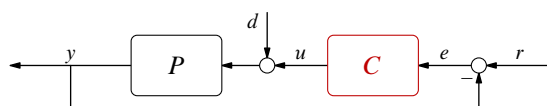
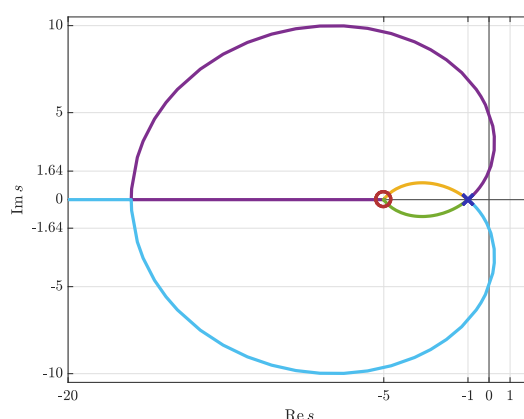

Fig. 1: Unity feedback closed-loop system
Fig. 2: Root locus system 1
**Question 1** (self-study). A process with the transfer function  $P(s) = 1/((s + 1)(s + 2))$  is controlled in closed loop with unity feedback as in Fig. 1.
1. Sketch the root locus of the system under a proportional (P) controller, i.e.  $C(s) = k_p > 0$ .
4. Consider now a proportional-integral (PI) controller of the form  $C(s) = k_p(1 + k_i/s)$  for some  $k_p > 0$  and  $k_i > 0$ . Calculate the steady-state errors to step  $r$  and  $d$  as functions of the PI controller parameters  $k_p$  and  $k_i$ .
**Question 2.** Fig.2 depicts the root-locus of a plant  $P$  controlled in the unity-feedback configuration in Fig. 1 with a proportional controller,  $C(s) = k_p$ .
2. Assuming that the leading coefficient of the numerator of  $P(s)$  is positive (the denominator is monic), determine the sign of  $k_p$  in Fig. 2 and sketch the root-locus plot for the complementary region.